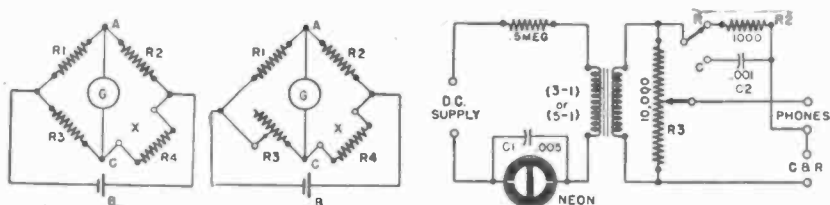

Fig. 1—left—Basic Wheatstone bridge circuit. Fig. 2—center—Practical adaption, with one variable arm. Fig. 3—right—D.c.-operated capacity checker.
**B**RIDGE CIRCUITS are widely used for capacitor measurements. The fundamental Wheatstone bridge is shown in Fig. 1. If all four resistors are equal, voltage drops across each will be the same, and